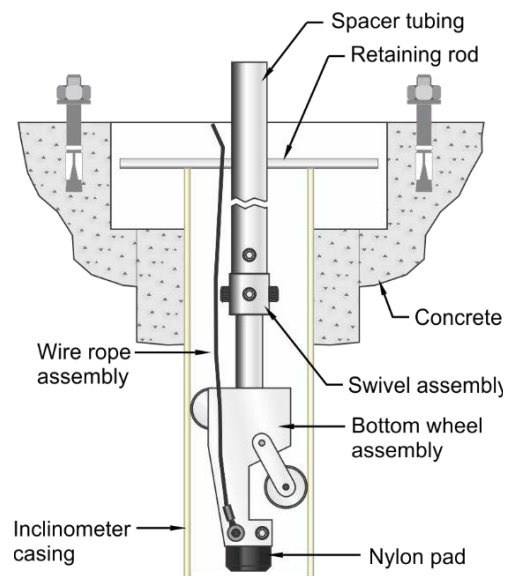

Figure 2: Concrete platform for protection
- Make a concrete platform (refer to figure 2) such that mouth of inclinometer casing is around 25 mm below the top of the concrete platform. Inside diameter of the cavity around the top of the casing in the platform should be around 150 mm.